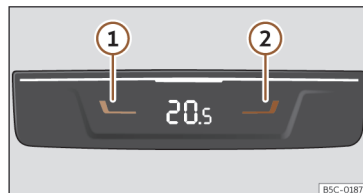

Fig. 112 In the centre console, rear section: controls for the rear seats.
- Press buttons ① and ② >>> **Fig. 112** to adjust the temperature of the rear zone.